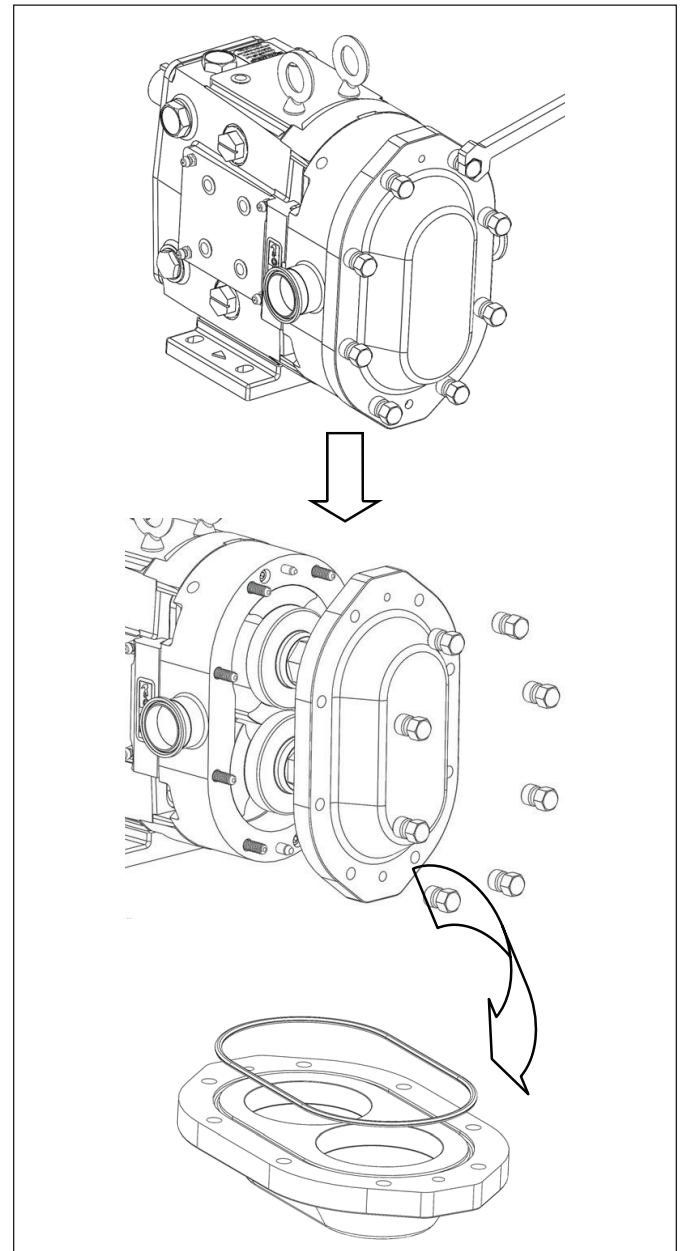

Figure 23. Removing ZP2 Cover
1. Start by removing the cover nuts using an appropriate wrench (*Figure 23*). During disassembly place all parts on a clean, protected surface with finished surfaces and seal faces facing up. Tap the cover off using a soft mallet. Remove the cover o-ring and inspect.